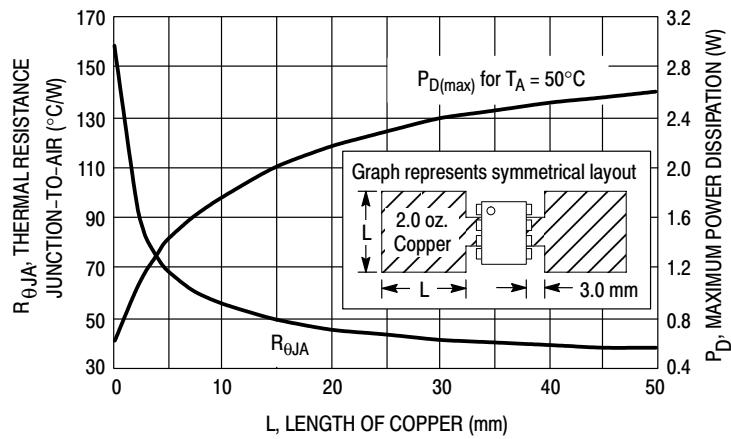

Figure 23. SOP-8 Thermal Resistance and Maximum Power Dissipation versus P.C.B. Copper Length
2. SOP-8 Junction-to-Ambient Thermal Resistance is for minimum recommended pad size. Refer to Figure 23 for Thermal Resistance variation versus pad size.